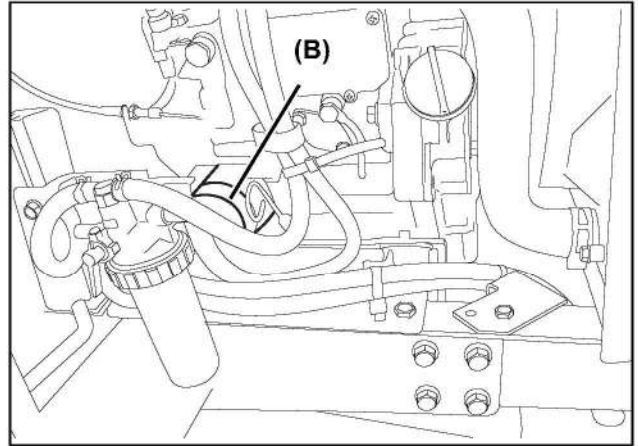

Fig 14-26
- Wipe away the dirt and dust surrounding the engine oil filter (Fig 14-26, B).